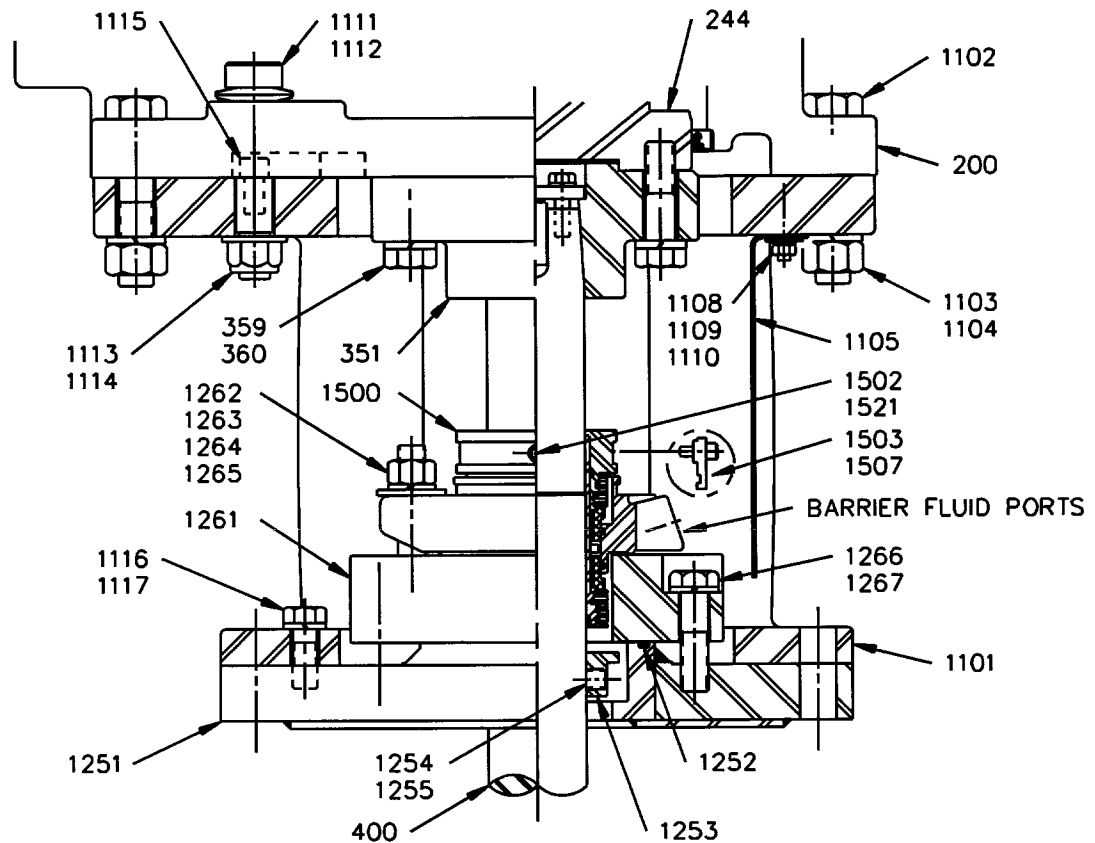

Figure 4: GTN, Chesterton 255 Seal
Model GTN: (Refer to Figure 4)
- 7l. Slide the mechanical seal cartridge down the shaft. Orient the barrier fluid ports as shown in *Figure 4, page 13*. Install nuts, lockwashers and flatwashers [1263,1264,1265]. Torque the nuts to the value shown in *Table 6*.